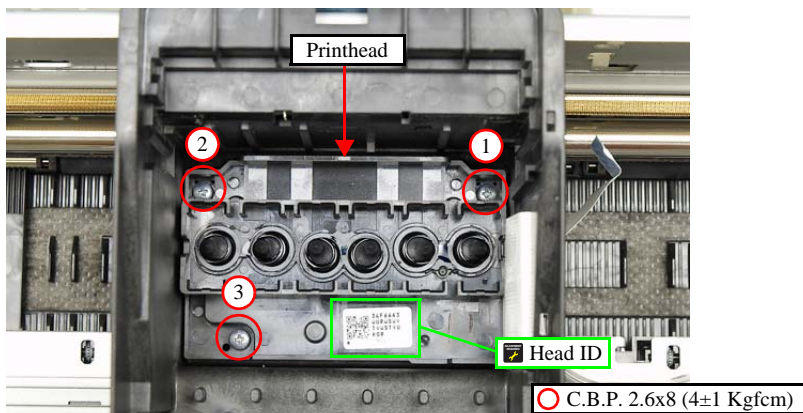

Figure 4-55. Removing the Printhead
- Tighten the screws in the order given in Fig. 4-55.